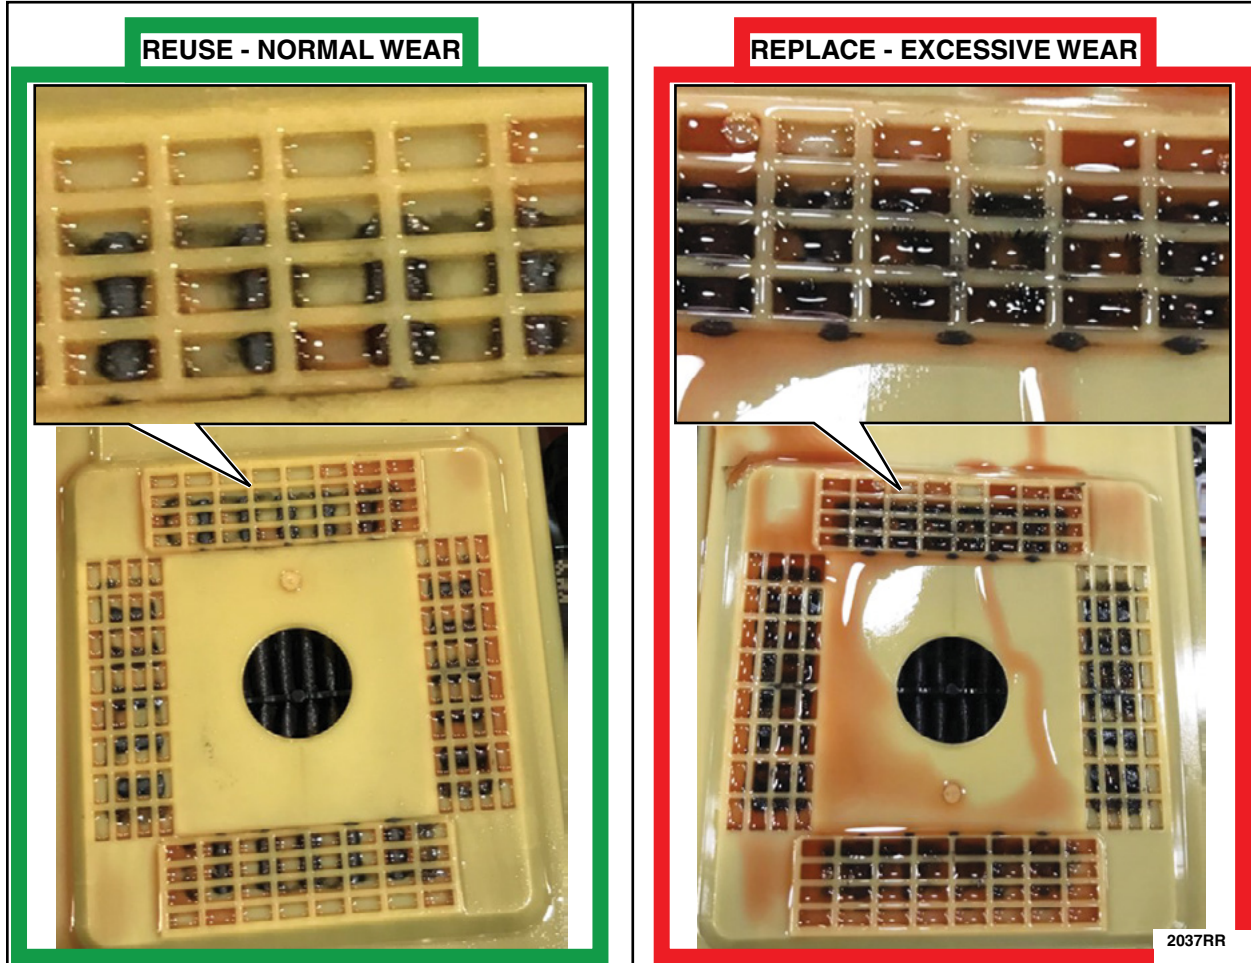

FIGURE 1
- For all **SOLD** vehicles - use the following table and See Figure 1.